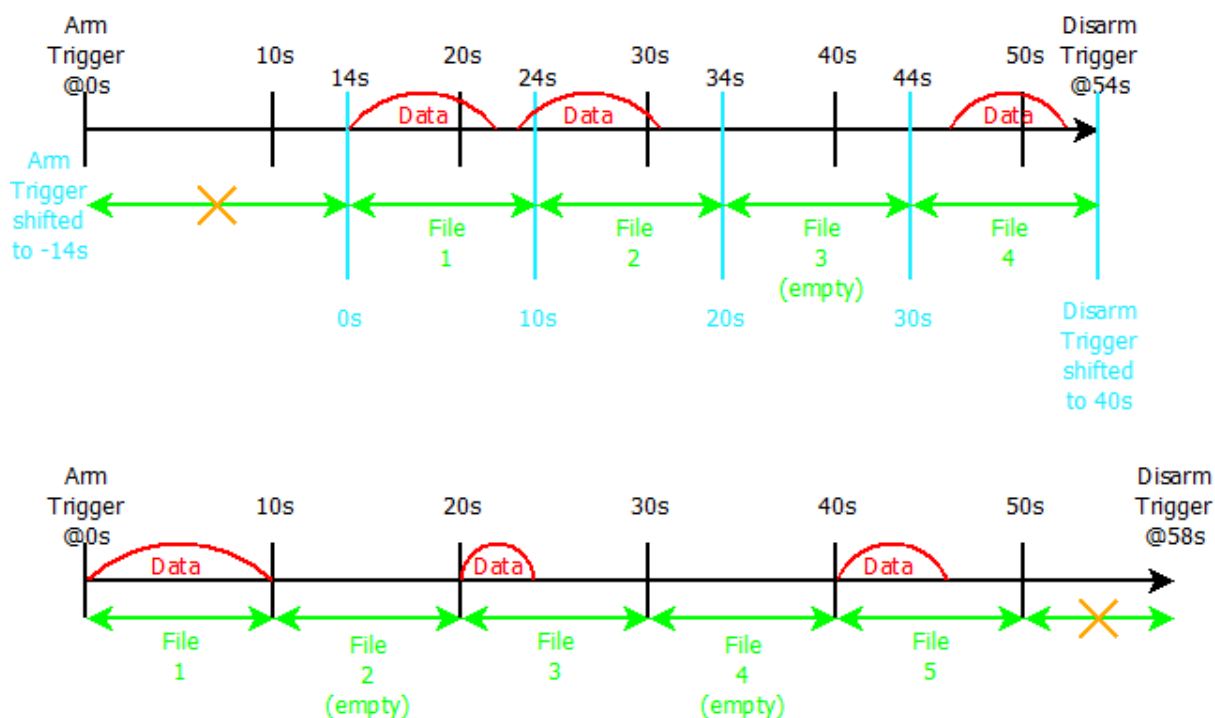

Fig. 5.6: Special case 1 for multi-file recording; split duration: 10s
- No data recording after arming the Trigger: If it takes a certain time after arming Trigger and the first occurring recording event, the time between arming the Trigger and the first occurring recording event will be rejected and the '0s' position will be shifted to the Arm Trigger position to the first occurring recording event. Thus, the first data file begins not at the position the Trigger is armed but at the position the first recording event occurs. The following Fig. 5.6 will illustrate this case:
- No data recording between two recording events: If the time between two occurring recording events is longer than the specified Split time interval, an empty data file created. (see File 3 in Fig. 5.6)